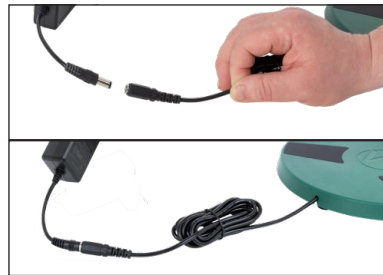

Fig. 1
1. To switch on the device, connect the mains adapter to the unit's supply cable (Fig. 1) and plug the mains adapter into a properly installed socket.